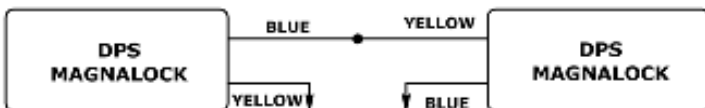

Figure 25. Double Door Status Wiring—DPS
1. CONNECT the blue wire of one lock to the yellow wire of the other as shown in Figure 25, “Double Door Status Wiring—DPS.”